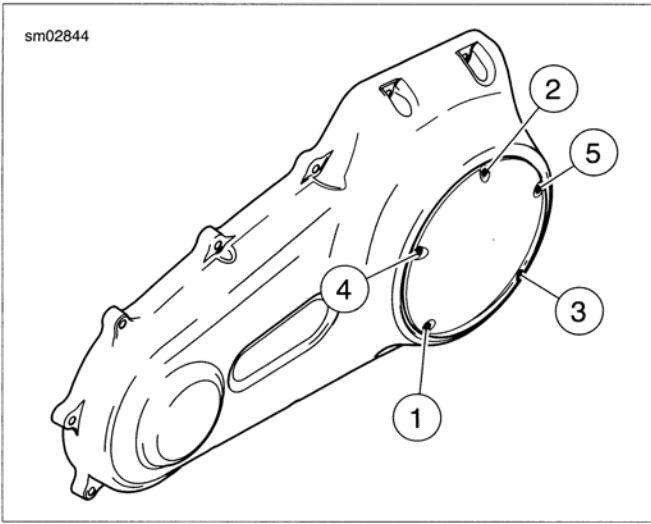

Figure 1-14. Clutch Cover Torque Sequence
- c. See Figure 1-14. Insert screw (with captive washer) through clutch inspection cover and carefully thread it into the top cover screw hole.
- e. Alternately tighten screws to 84-108 in-lbs (9.5-12.2 Nm) following torque sequence shown in Figure 1-14.